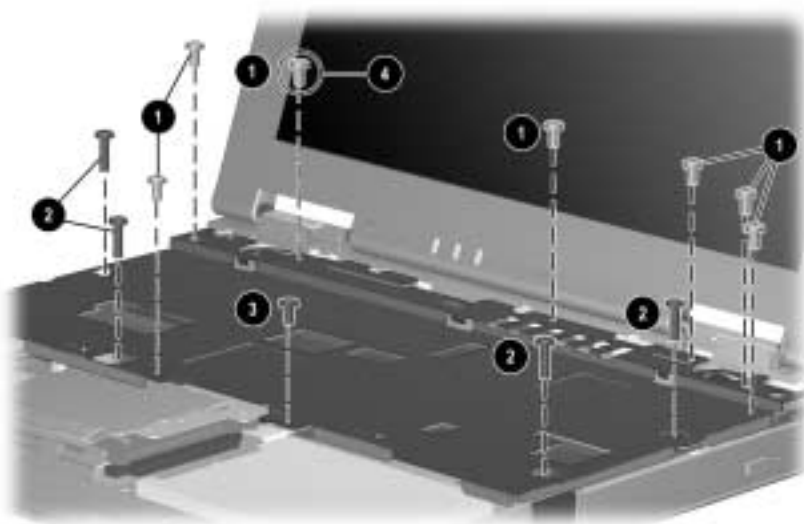

Figure 5-20. Removing the EMI Shield Screws
4. Remove the 12 screws securing the EMI shield to the base assembly (Figure 5-20).